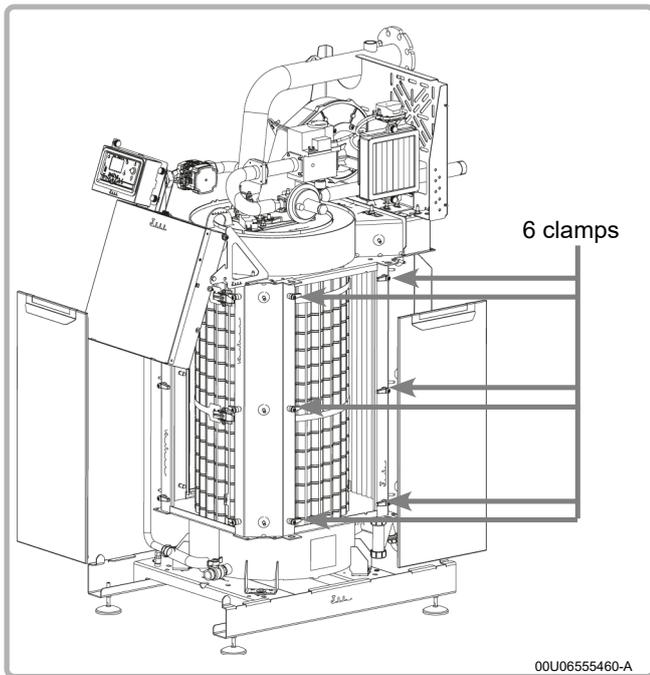

figure 31 - Removing the exchanger doors
- Remove the seals from their groove and replace them with the new seals contained in the maintenance kit (see figure 31).